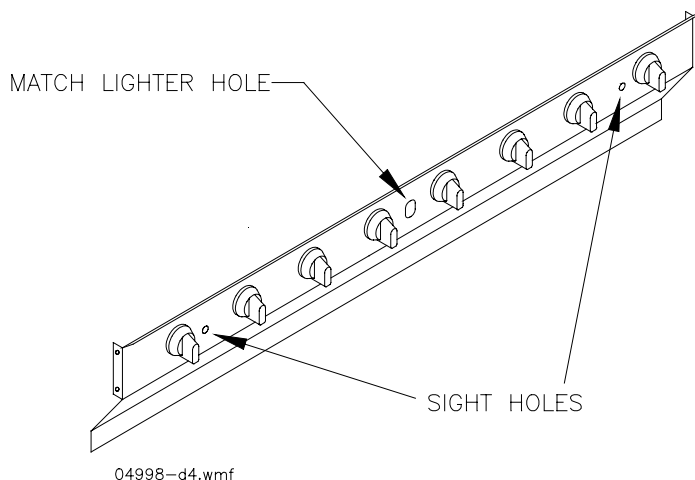

Figure 2
5. OPERATION, LIGHTING and CLEANING (Use Figure 2)